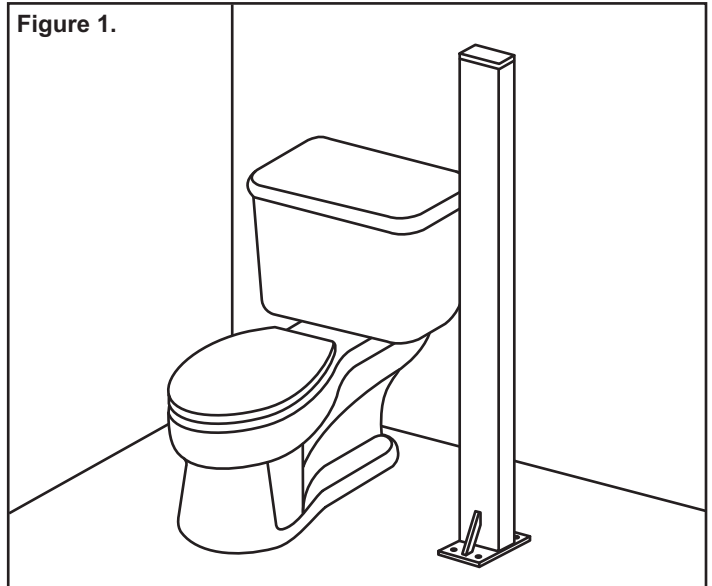

Figure 2.
4. Attach the floating clamp plate to the back of the P.T. Rail™ wall plate as shown in **Figure 2**. Leave the bolts loose.